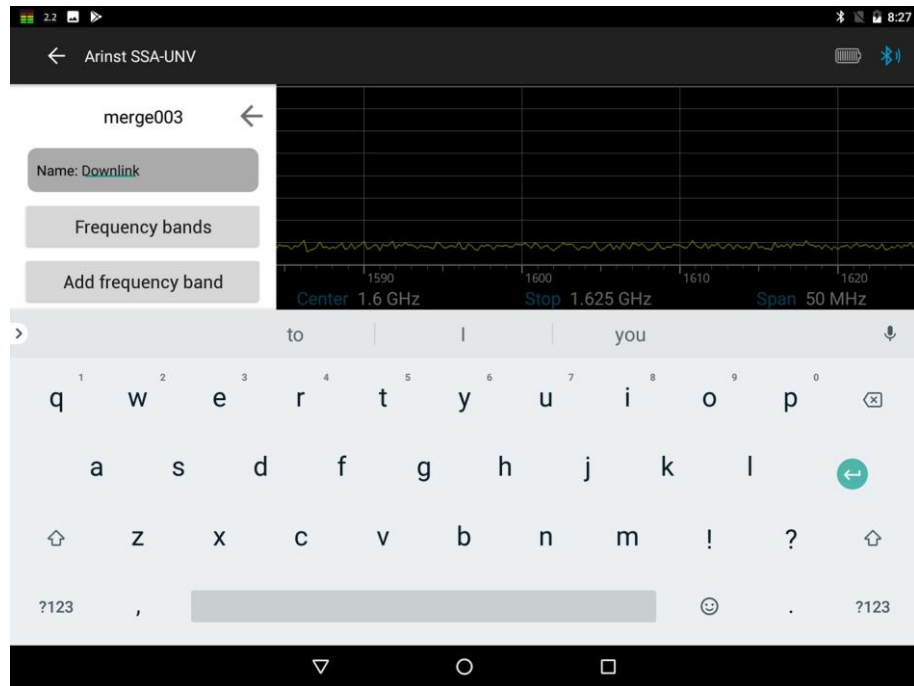
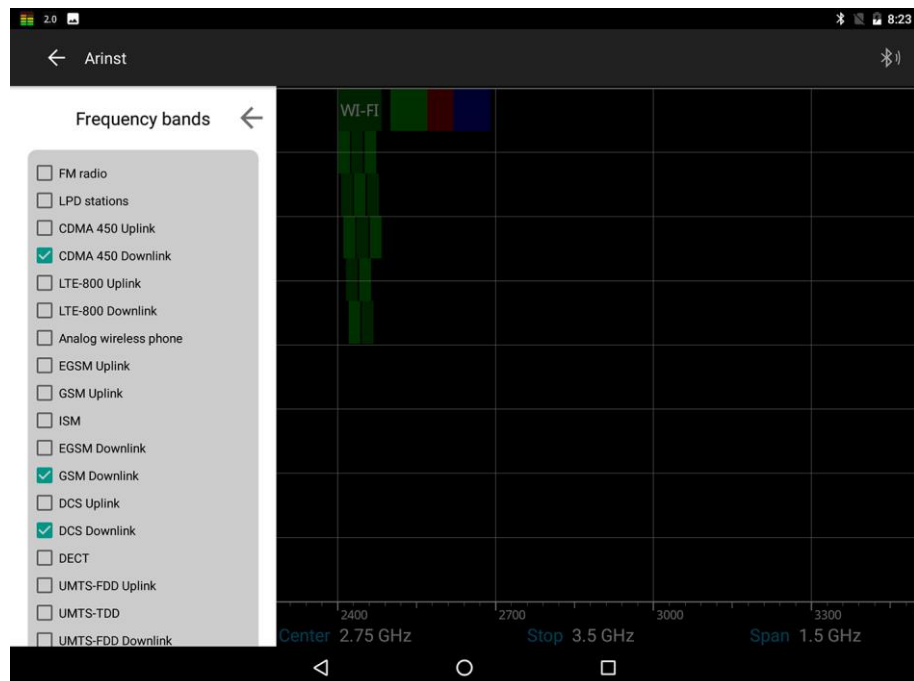
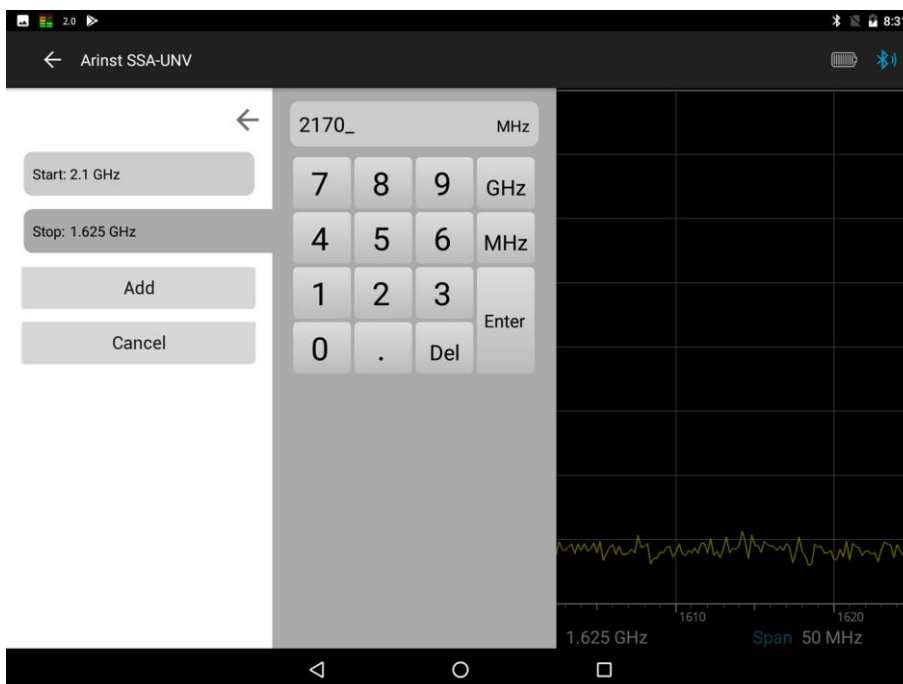

Figure 80 – Entering the name of the new range list
Figure 81 – Selecting ranges from the list
Figure 82 – Input of the initial and final frequencies of the range
9.5.3. In the **Name** field, enter the name of the new range list, for example, *Downlink*, as shown in figure 80.
a) By clicking on the **Frequency bands** button (Figure 80), select the desired bands from the list of preset bands, as shown in Figure 81. In our example, *GSM Downlink*, *DCS Downlink* and *CDMA 450 Downlink* are selected.
b) By directly entering the frequency range. To do this, click **Add frequency band** (figure 80), and in the menu that opens, enter the **Start** and **Stop** frequency of the range, as shown in figure 82. *In our ex-*